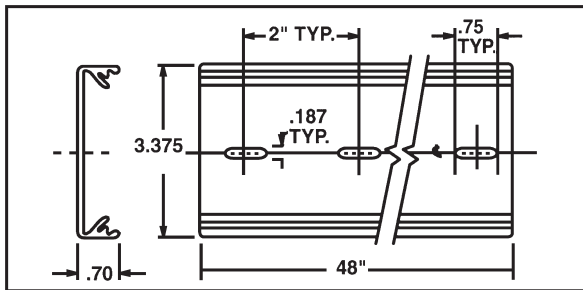

**Figure 3-1 Assembly of the Transmitter inside an OMEGA NB1 Protection Head (Dimensions in inches)**
2. mounted inside a protection head (refer to Figure 3-1), or